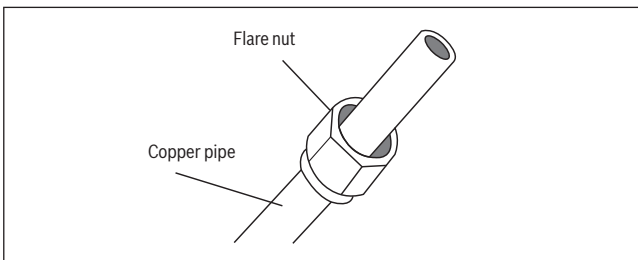

Fig. 16.
3. Place flare nuts on both pipe ends. Ensure they are facing in the right direction, because you can't put them on or change their direction after flaring. See Fig. 16.